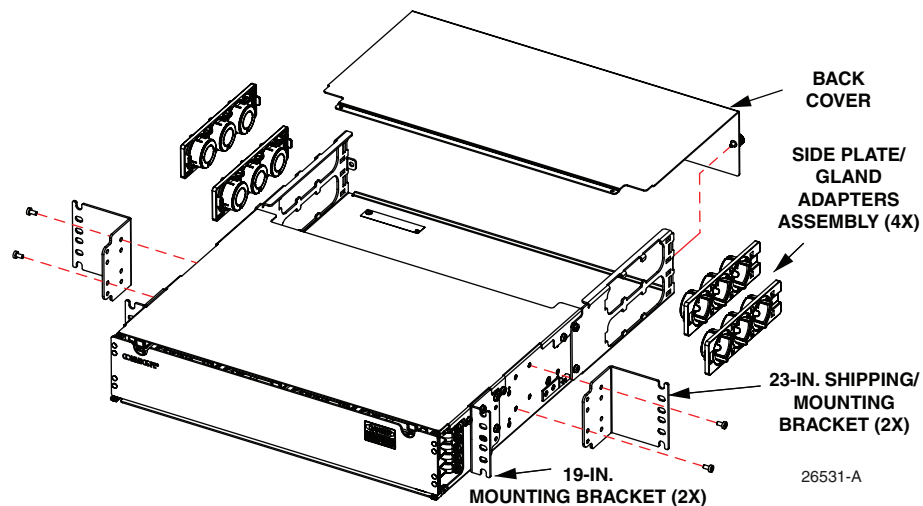

Figure 8. EHD Panel as Shipped
► **Note:** The panel is shipped with the 19-inch mounting brackets at the 3-inch recess position, as shown in Figure 8. The two 23-inch mounting/shipping brackets mounted further back can be removed and discarded. To ease installation, the back cover and side plate/gland adapters assemblies should also be removed. See Section 4.5 on Page 16.